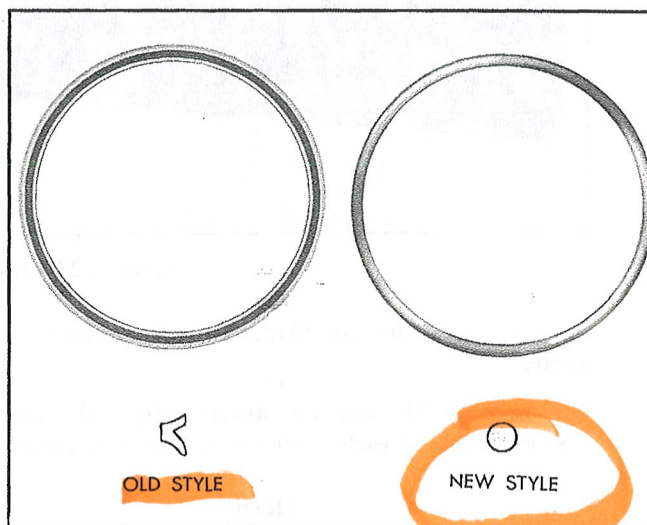

Figure 225—Blade Cylinder Outer Seal
b. The hub assembly on model A632S-C4 propellers is identical with that used on models A632S-C1, -A1, -A2, -B1, and -B5, except for the *outer seal ring* on the torque unit blade cylinders. This seal is an improved design with an "O" cross section and is interchangeable with the lip type used on the preceding models. See Figure 225.